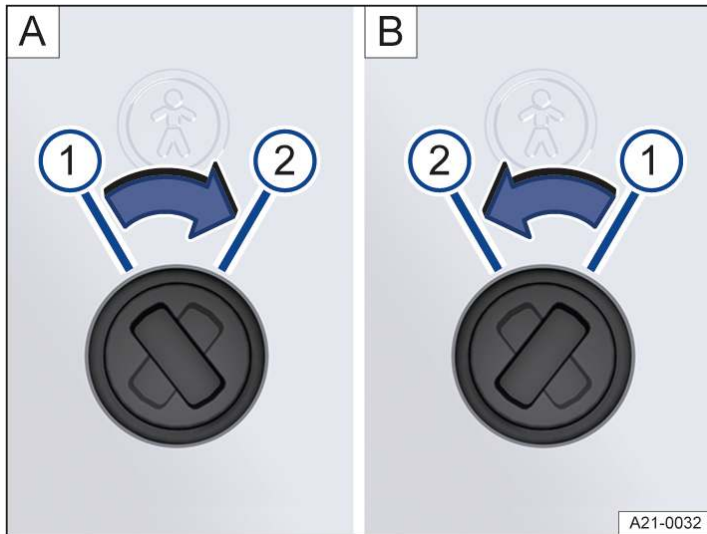

Fig. 1 Childproof lock: **A** rear left door, **B** rear right door.
2. Move the slot to the corresponding position → Fig. 1.